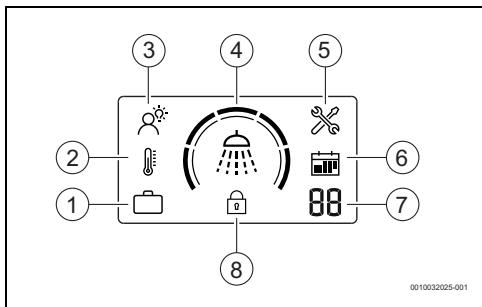

Fig. 5 Display controller assembly
- Press the  key until SMART mode appears on the display (→ Fig. 5 [3]).
- Press the  key until Manual mode appears on the display (→ Fig. 5 [2]).
- ▶ Press the  key until Vacation mode appears on the display (→ Fig. 5 [1]).
- ▶ Press the key  to set the desired number of vacation days (→ Fig. 5 [7]).
This function locks the control panel (\rightarrow Fig. 5 [8]).